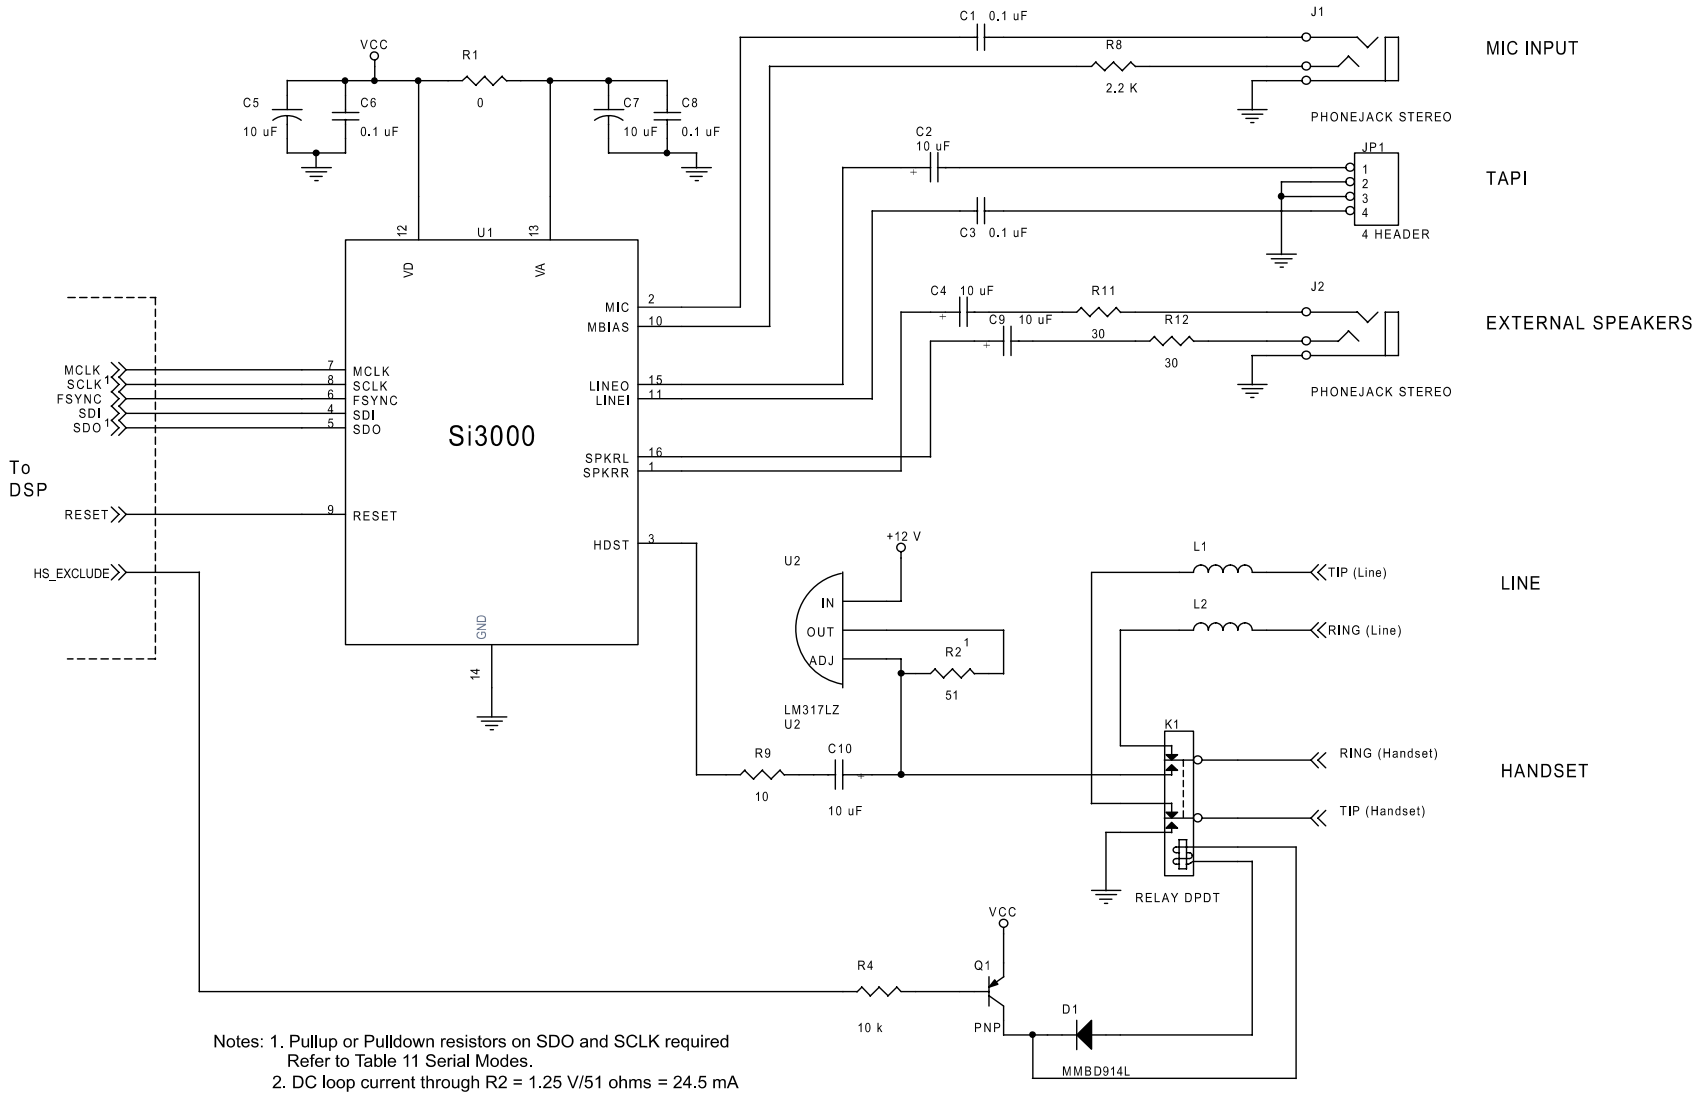

Figure 13. Si3000 Typical Application Circuit
5. These characteristics are determined by external components. See Figure 13.
The Si3000 can be connected directly to the Si3035, Si3034, Si3044 in modem applications requiring a voice channel, or the device can be used as a stand-alone codec in other voice band applications. The Si3000 offers high integration, and it needs only a few low cost, discrete components as shown in Figure 13.
The typical connection diagram (Figure 13) shows the recommended external analog circuitry for the Si3000. The device supports three mono analog inputs—line level, microphone level, and a handset input. Each of these inputs is provided to a mixer circuit prior to A/D conversion. Each analog input may also be muted by writing the appropriate bits in the control registers. Unused analog inputs should be tied to GND through a 0.1  $\mu$ F capacitor. This prevents any DC current flow.
LINEO is a line level analog output signal centered around a common mode voltage. The minimum recommended load impedance is 600  $\Omega$ . This output is a fully filtered output with a 1 Vrms full scale range. The only external component required is the 10  $\mu$ F DC blocking capacitor shown in Figure 13 on page 12. This output may be muted through the LOM bit in register 6 or attenuated by setting the analog attenuation bits in register 9.
The SPKRL and SPKRR analog outputs are capable of driving a small loudspeaker whose impedance is typically 32  $\Omega$  (see Figure 13 on page 12). The speaker outputs may be muted through the SLM and SRM bits in the DAC Gain Control register 7 or attenuated by setting the analog attenuation bits in register 9.
The Si3000 has two serial interface modes that support most standard modem DSPs. These modes are selected by the addition of a 50 k $\Omega$  pull-down/up resistor on the SDO and SCLK pins as shown in Figure 13 on page 12. To determine the mode, the Si3000 reads SDO and SCLK on the first rising edge of MCLK after RESET goes low. The key difference between these two serial modes is the operation of the FSYNC signal. Table 11 summarizes the serial mode definitions.